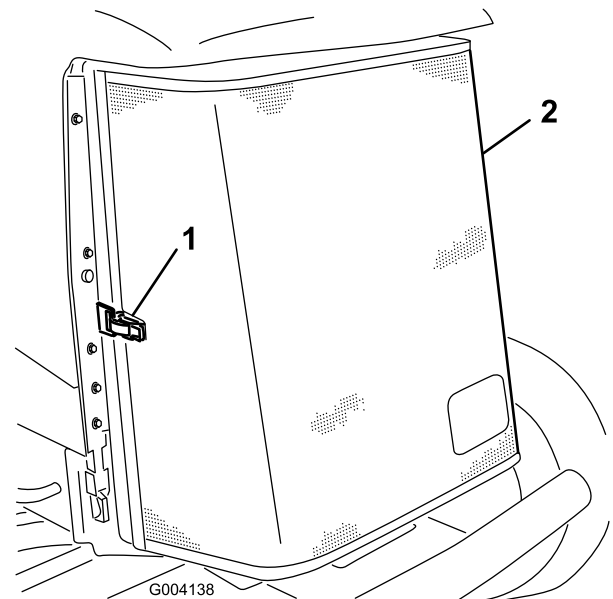

Figure 56
3. Unlatch the clamp and pivot open the rear screen (Figure 56).